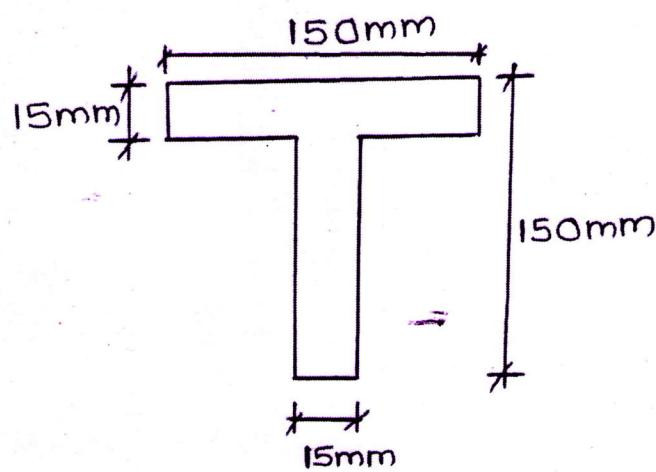

Fig. 7
- b) Determine the rotation at the free end of a cantilever curved beam of quarter circle (8) radius R subjected to a concentrated load P at its free end.
8 a) Determine the shape factor of the T section shown in Fig. 7 (8)